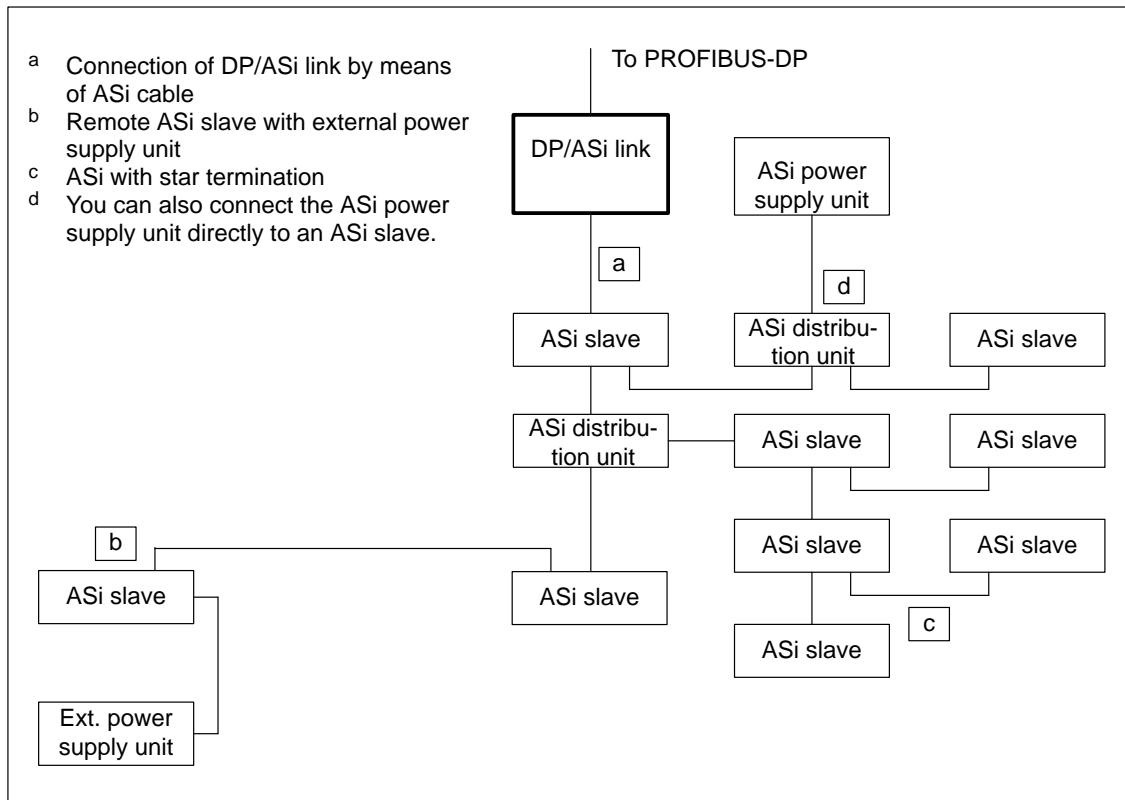

Figure 2-1 Example installation of an ASi
**Example installation** Fig. 2-1 shows an example installation of an ASi.